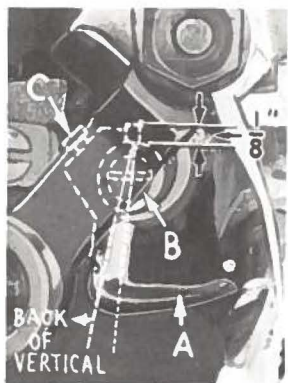

Fig. 9
Insert upper looper (A, Fig. 9) in its holder. Screw (B) holds upper looper in its holder, and permits it to be pushed in or out or turned around its shank. Insert upper looper holder into upper looper shaft, if it is not already in place. Screw (C) on clamp holds the upper looper holder in the shaft. Locate upper looper in its holder so that the shank extends 1/8 inch beyond holder.
When the upper looper is at the right end of its stroke, upper looper holder should be set to position upper looper shank slightly back of vertical (Fig. 9).